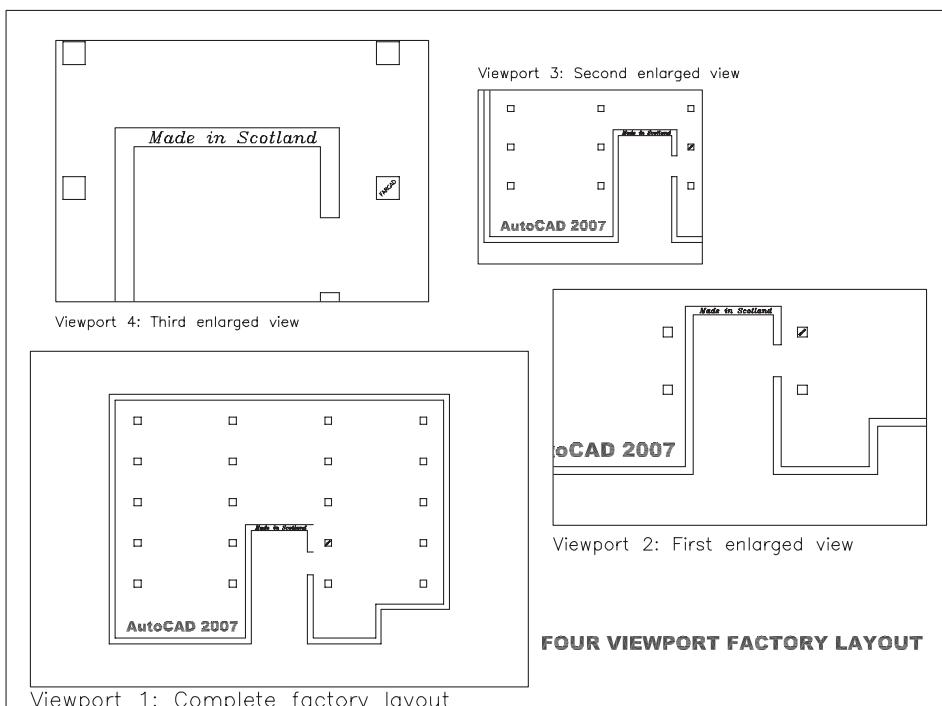

Figure 33.2 Using the new MYNEWA3 paper space layout with the LARGESC factory drawing.
- 1 The new MYNEWA3 layout has no viewports so refer to Figure 33.2 and:
c) Still refer to Figure 33.2.